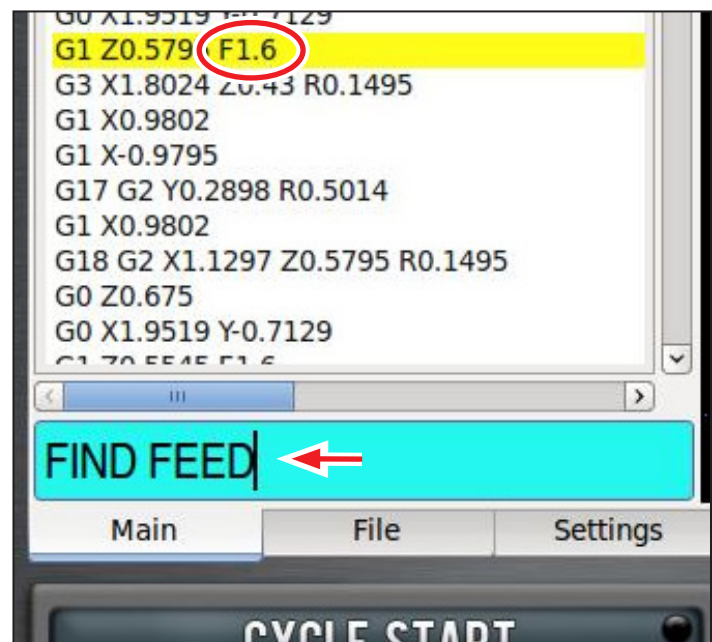

Figure 6.12
- *FIND FEED*: Searches for instances of the actual word *Feed* in the G-code and any *F* G-code command (see **Figure 6.12**)